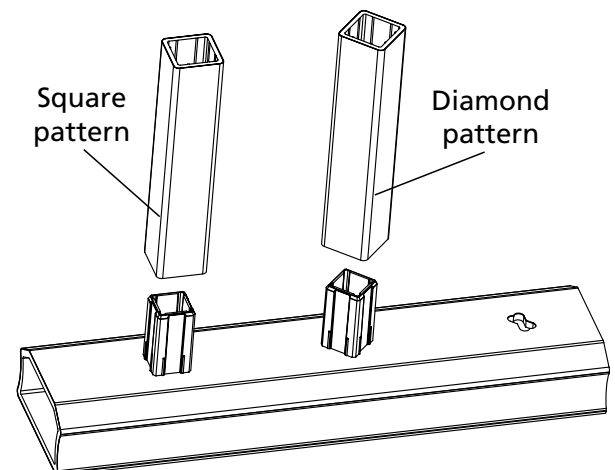
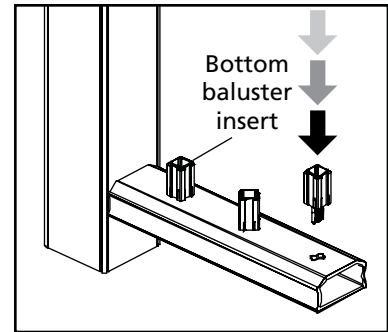

Figure 21
Figure 22
14. Determine the desired baluster design (squared look, diamond look or a mixed pattern of the two. Diamond pattern not possible on stair sections) (Figure 21).
16. Fully engage the bottom baluster insert (Figure 22) into each baluster slot in the bottom rail. Orient the bottom baluster insert to achieve the desired look (Figure 21).